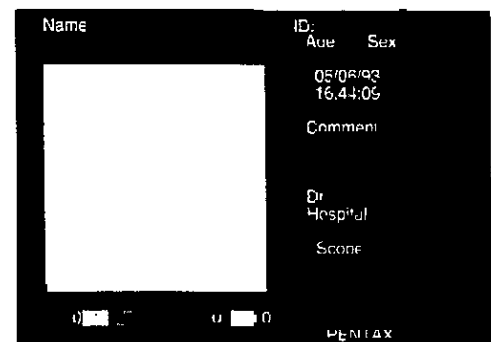

Fig. 28
2. Press Enter or the Down arrow key after typing an entry to advance to the next field (Fig. 28).